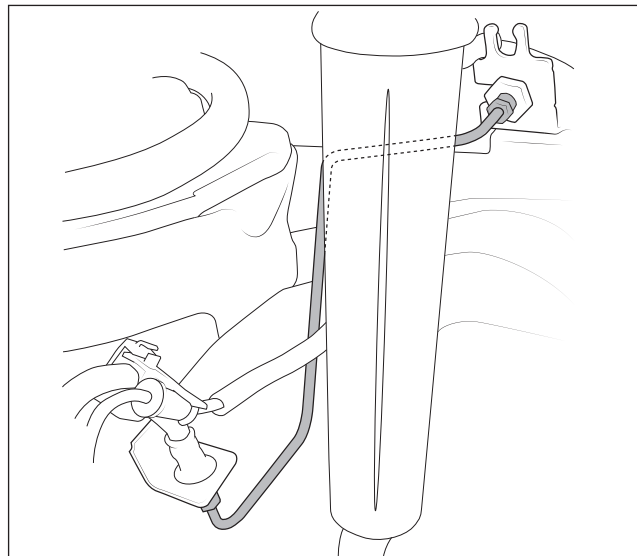

Figure 34
14. Install AEV steel brake lines between the factory flexible lines (fig. 34). **NOTE: On POWER WAGON, slight bending of the brake lines may be necessary for proper drive shaft clearance.**